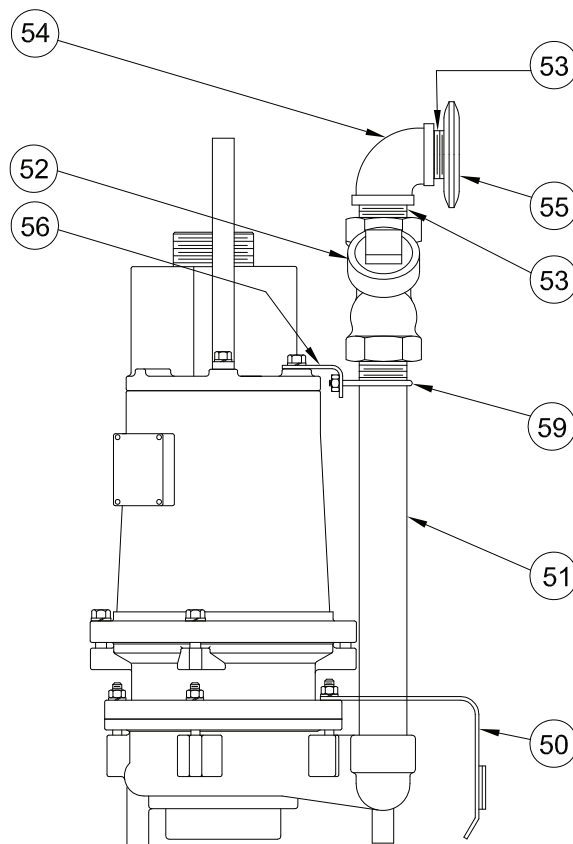

FIGURE 13
Remove two capscrews (a) and lockwashers (b) and remove lifting handle (c) (See Figure 13). Replace lifting handle (c) with Suspended Bracket (61) on motor housing and insert two capscrews (a) and two lockwashers (b) and tighten.